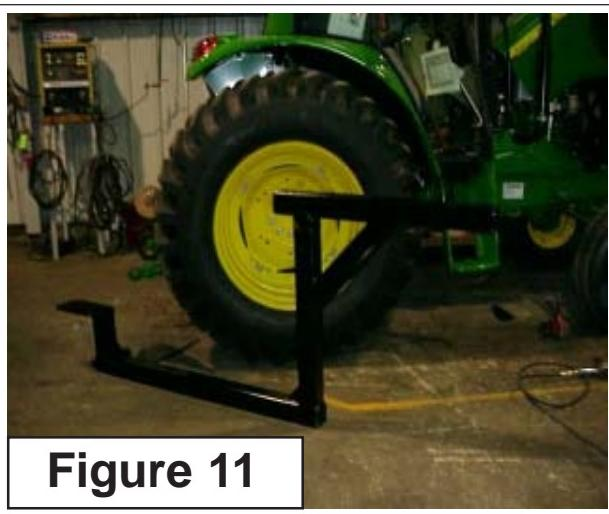

Figure 11
5. Locate RH and LH Frame Rail. There are two different frame rails, RH and LH. Start with either one you want, for illustration we started with the RH (**See Figure 11**). Remember the LH is the one with the Counter Weight Mount Tubes welded onto it, (**See Figure 1**)